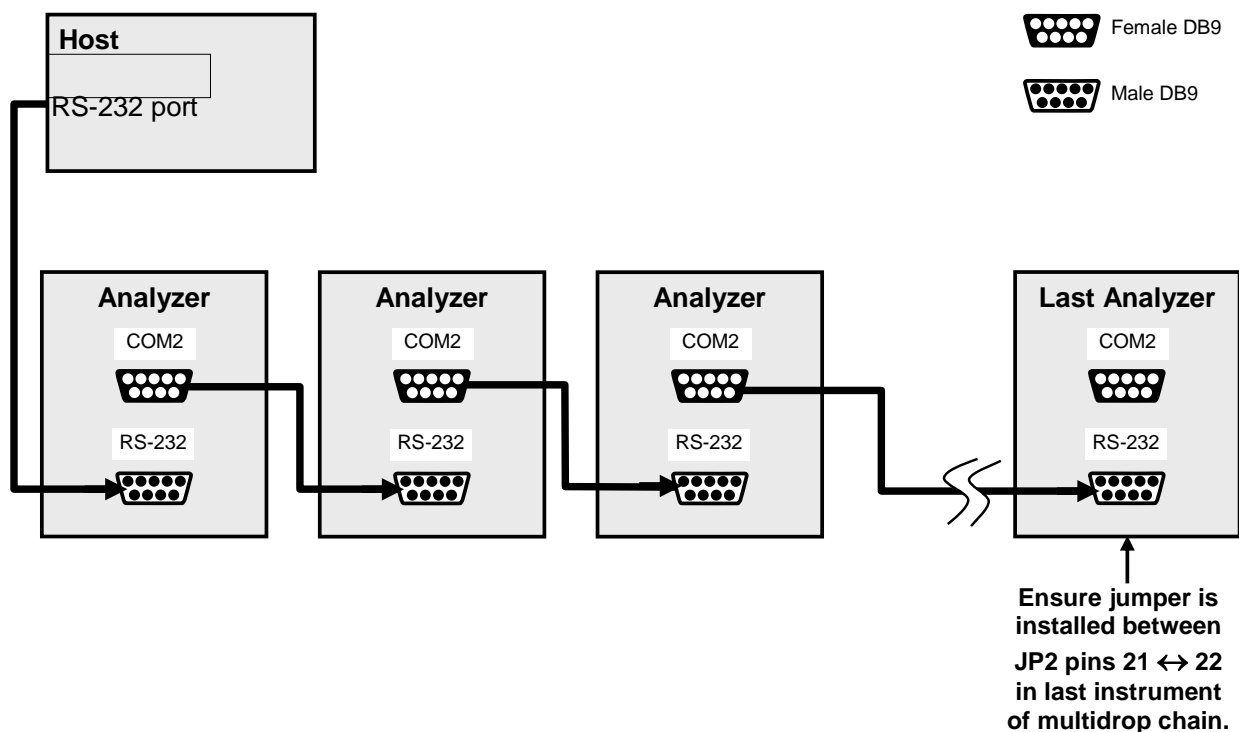

Figure 8-2: RS-232 Multidrop PCA Host/Analyzer Interconnect Diagram
4. Referring to Figure 8-2 use straight-through DB9 male → DB9 female cables to interconnect the host RS232 port to the first analyzer's RS232 port; then from the first analyzer's COM2 port to the second analyzer's RS232 port; from the second analyzer's COM2 port to the third analyzer's RS232 port, etc., connecting in this fashion up to eight analyzers, subject to the distance limitations of the RS-232 standard.